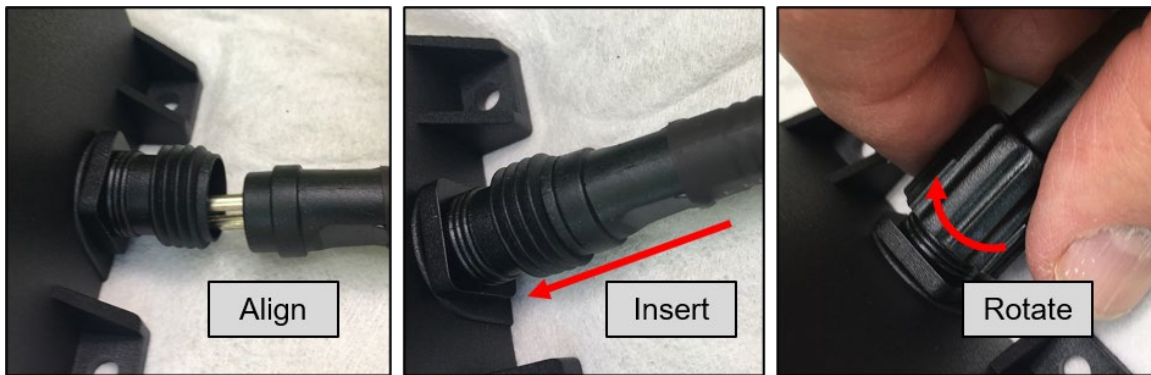

Figure 20 Connect LED Lights Power Supply
- a. Align the grill plug with the power supply holes (Figure 20 left)
- b. Insert the plug until it is fully seated (Figure 20 center)